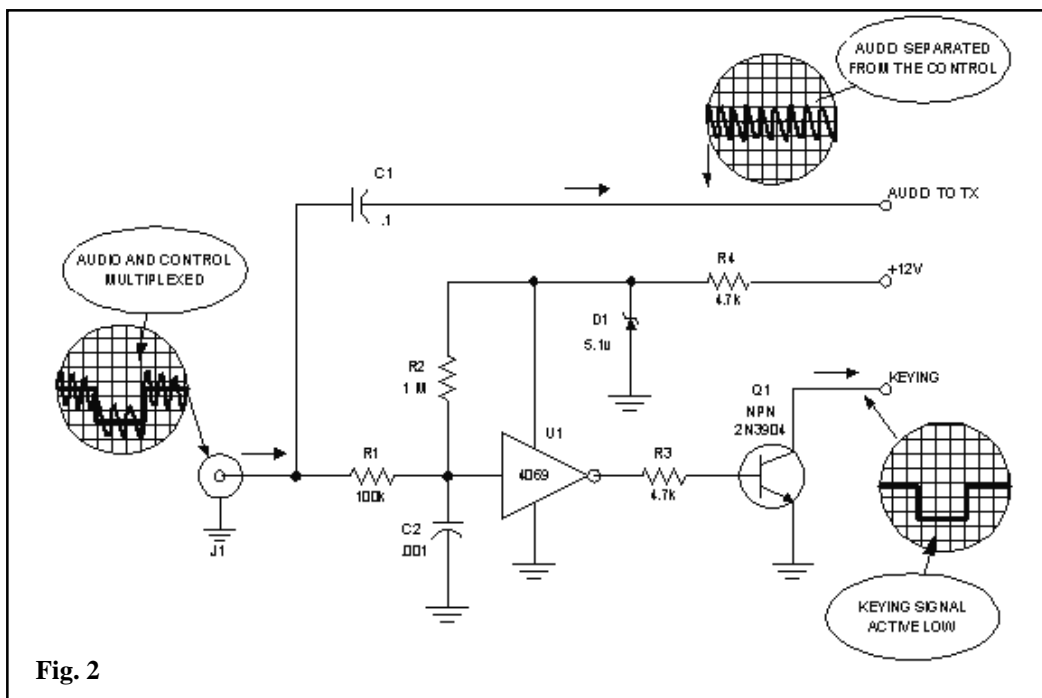

Fig. 2
At the transmitters we need a de-multiplexer circuit. Fig.2 shows the audio and control enter the circuit on J1. The audio is stripped off through C1. The control signal (DC) is passed into the inverter U1. C2 removes any remaining audio to prevent chatter at the collector of Q1. The zener diode D1 forms a regulated voltage source for U1. This sets the inverter threshold at a fixed trigger voltage ($>2/3$ VCC and $<1/3$ VCC). The output of U1 drives the base of Q1 through R3. The Collector of Q1 is an active low keying signal (connected to the transmitter PTT line). R3 is a pull-up resistor that holds the input of U1 high to prevent Q1 from keying the transmitter when the cable is disconnected from J1.